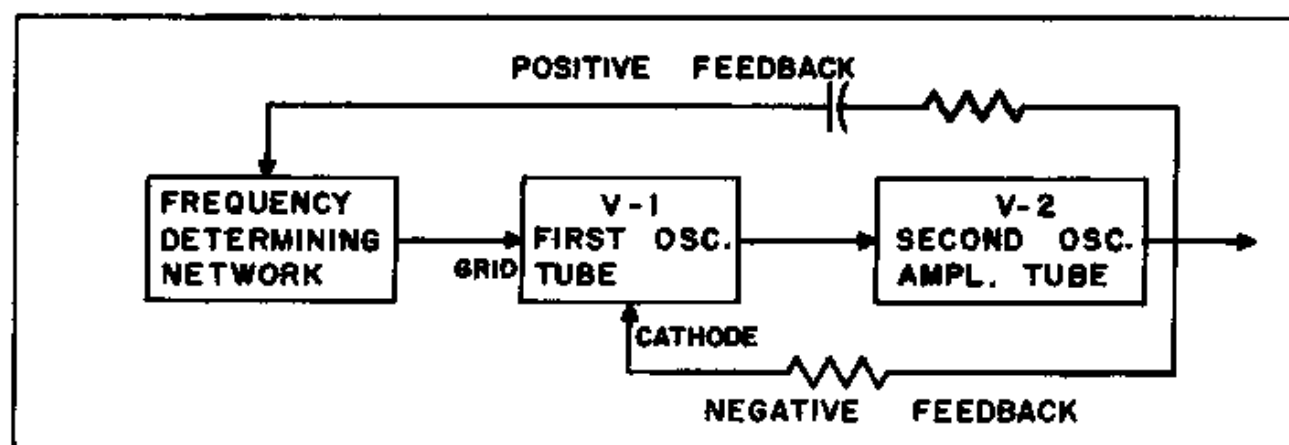

FIG. 9
**THE OSCILLATOR CIRCUIT:** (See Fig. 9) The oscillator section is basically a two tube amplifier with a Wien Bridge inserted in the feed-back path. It oscillates as a result of part of the output voltage being fed back to the input with the correct phase relation. This type of feed-back is known as positive feed-back. Negative feed-back is also employed to stabilize the oscillator operation and to maintain constant output over a wide frequency range.